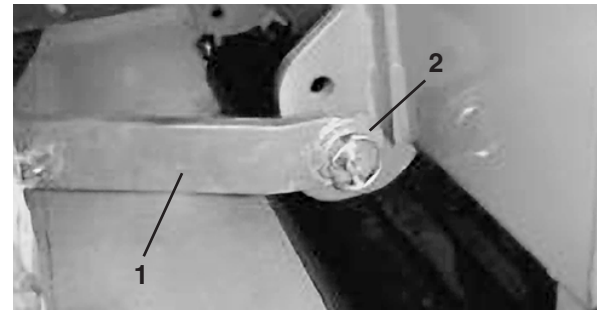

Figure 1
5. Insert the right and left lower link arms onto the hitch pins (Fig. 1).
6. Secure the lower link arms to the hitch pins with lynch pins (Fig. 1)